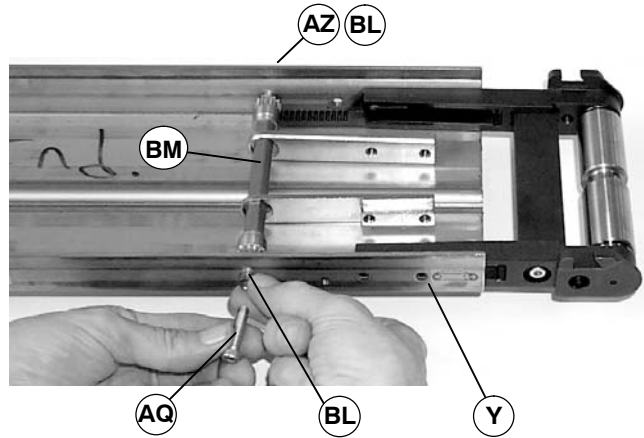

Figure 35
3. Remove two screws (AQ and AZ of Figure 35) and sleeves (BL) from conveyor (Y) and hex pinion (BM).